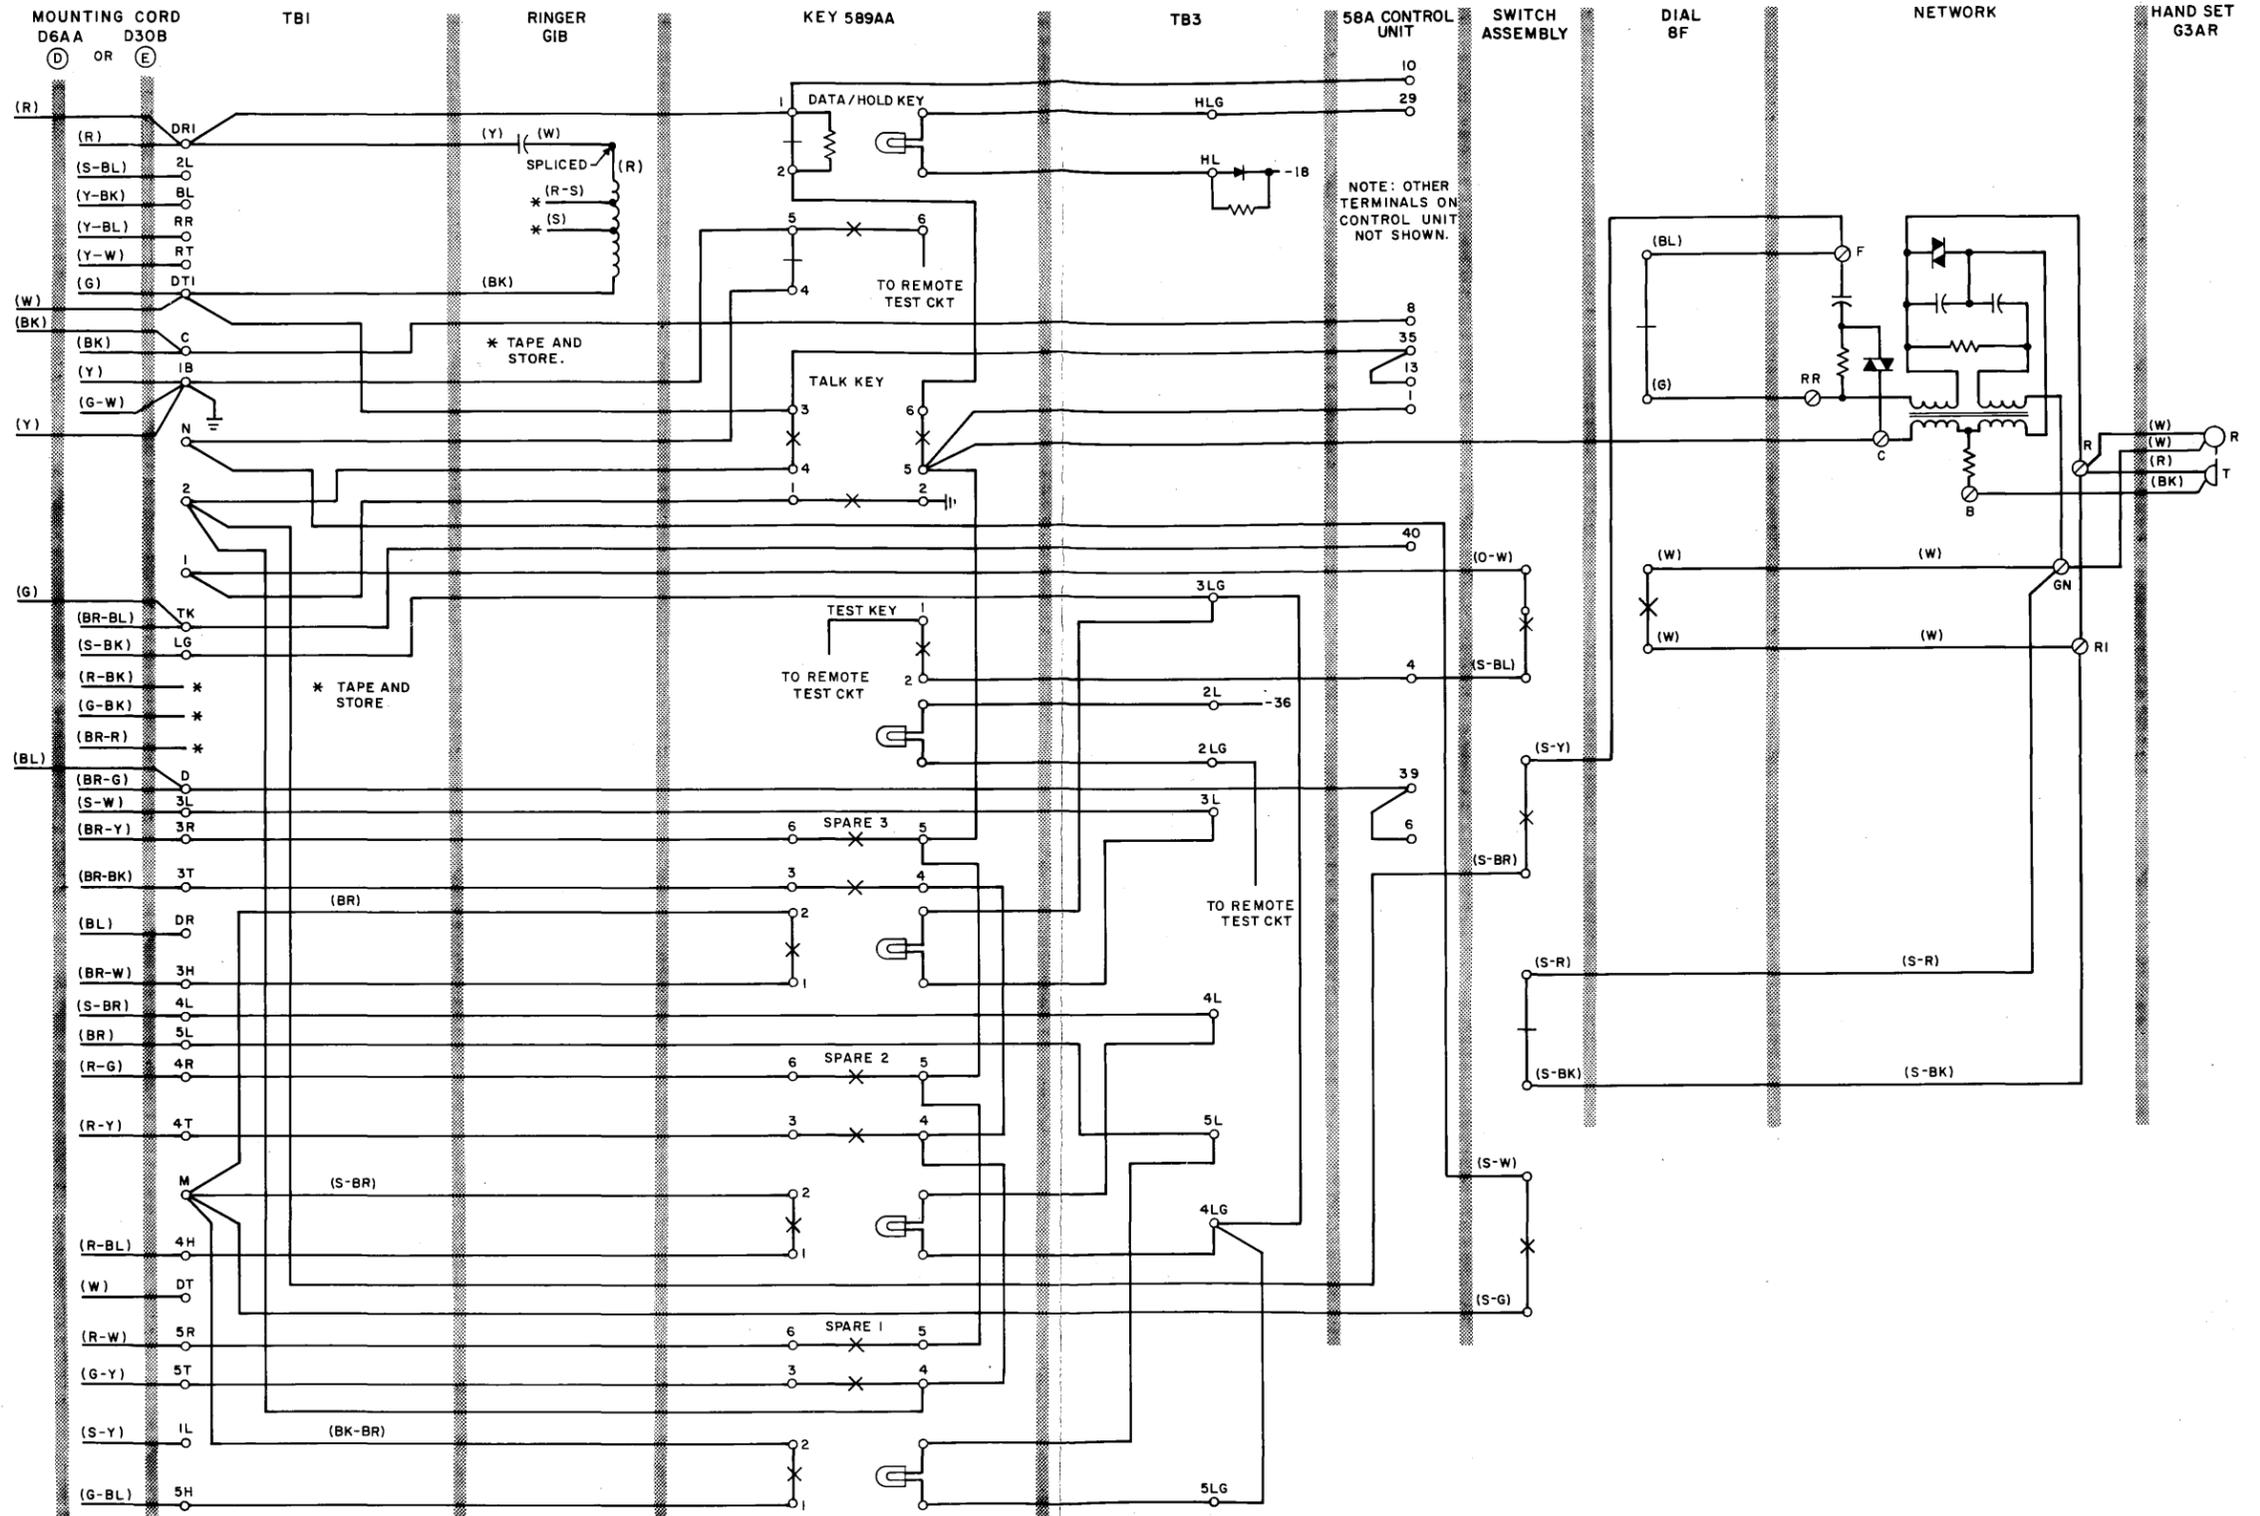
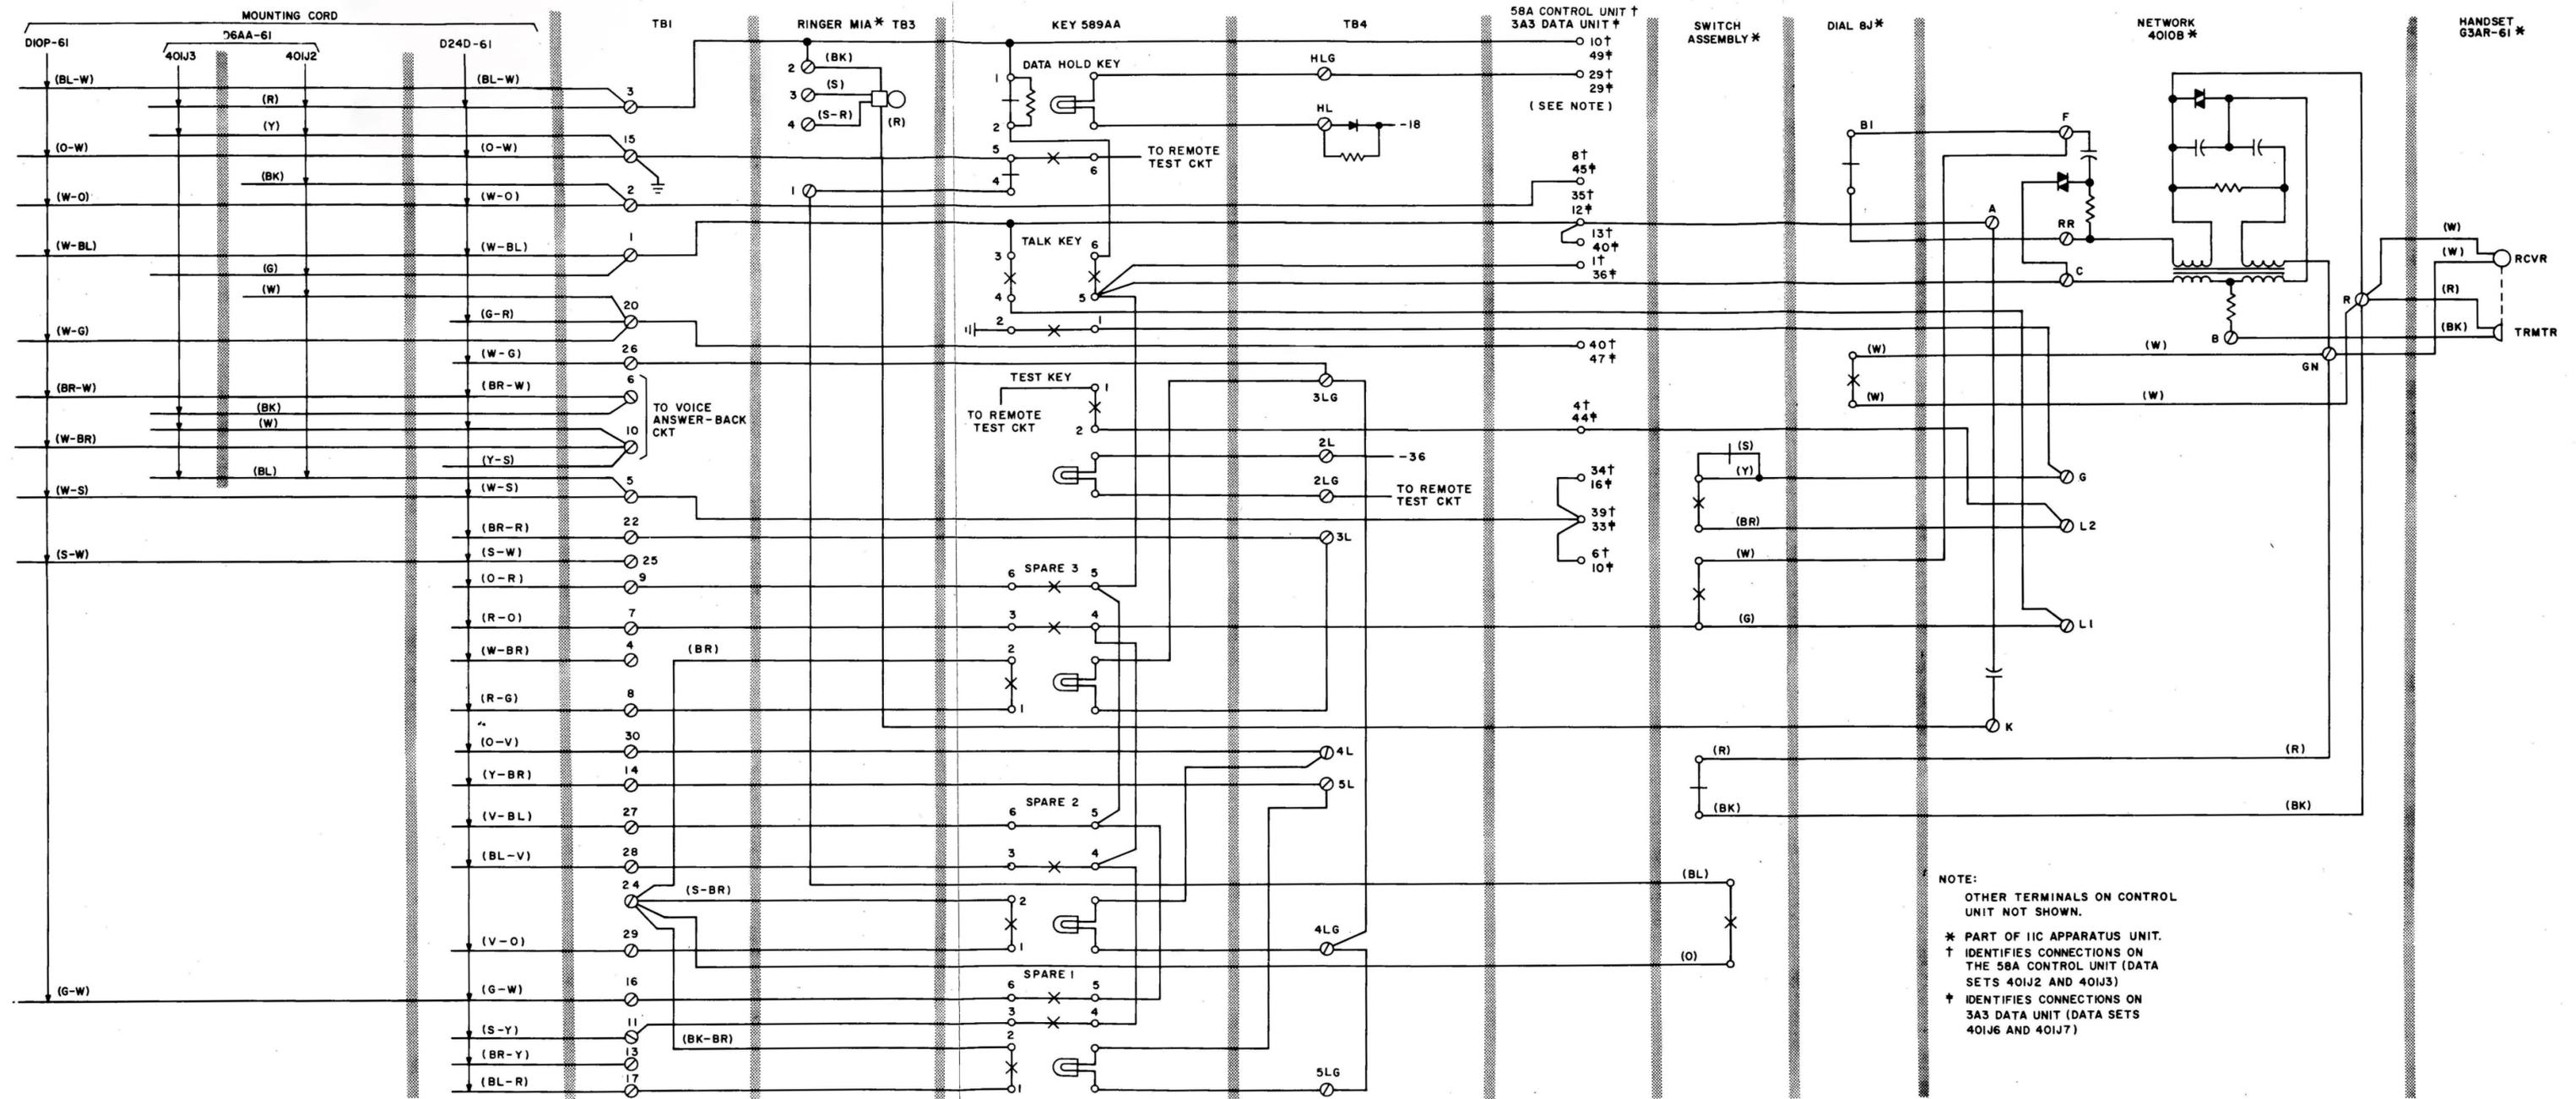
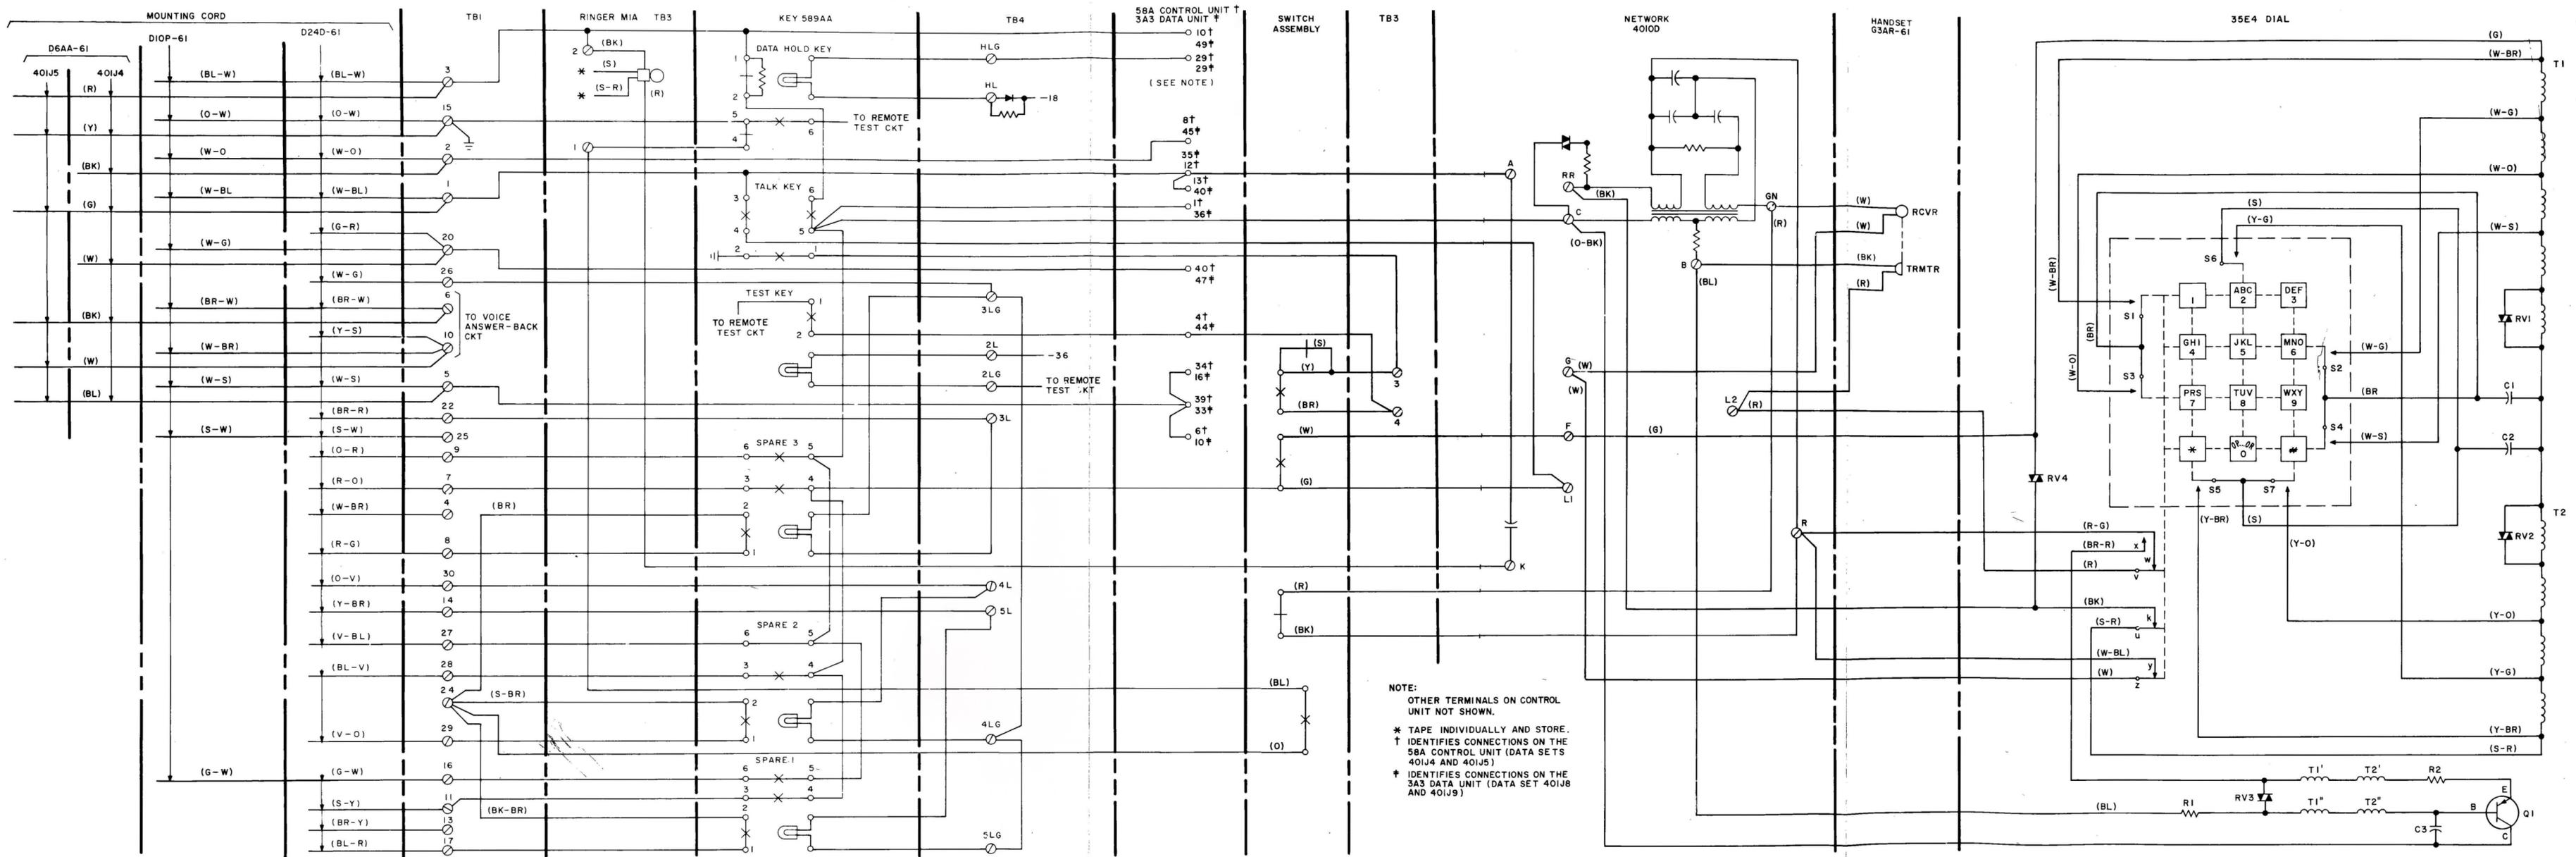

Fig. 1—Data Set 401J and 401J1—Key and Telephone Circuit
Fig. 2—Data Set 401J2, 401J3, 401J6, and 401J7—Key and Telephone Circuit
Fig. 3—Data Set 401J4, 401J5, 401J8, and 401J9—Key and Telephone Circuit
1.05 Figure 1 shows the telephone circuits of Data Sets J1D401J and 401J1. Figure 2 shows the telephone circuit for Data Sets 401J2, 401J3, ◆401J6, and 401J7.◆ Figure 3 shows the telephone circuit for Data Sets 401J4, 401J5, ◆401J8, and 401J9.◆